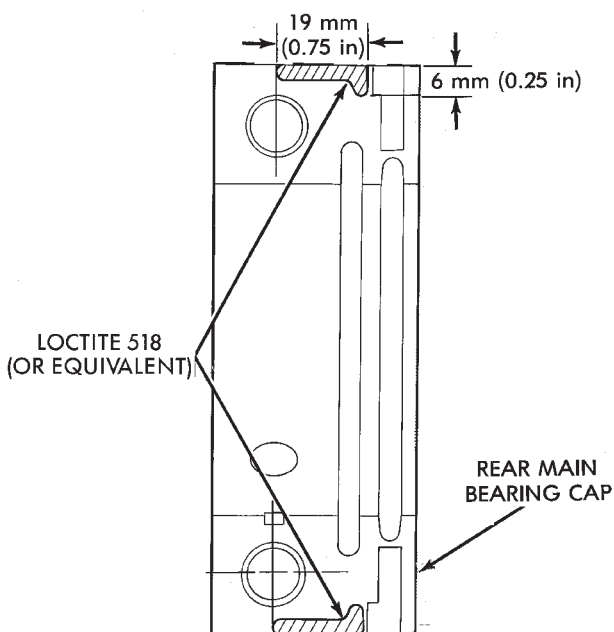

Fig. 59 Location of Loctite 518 (or equivalent)
(7) Position the lower seal into the bearing cap recess and seat it firmly. Be sure the seal is flush with the cylinder block pan rail.
(8) Apply Loctite 518, or equivalent on the rear bearing cap (Fig. 59). The bead should be 3 mm (0.125 in) thick. DO NOT apply Loctite 518, or equivalent to the lip of the seal.
(9) Install the rear main bearing cap. DO NOT strike the cap more than twice for proper engagement.
(10) Tighten all main bearing bolts to 108 N·m (80 ft. lbs.) torque.
(11) Install the main bearing cap brace. Tighten nuts to 47 N·m (35 ft. lbs.).
(12) Install the oil pan gasket and oil pan. Tighten 1/4 - 20 screws to 14 N·m (120 in. lbs.). Tighten 5/16 - 18 screws to 18 N·m (156 in. lbs.).
(13) Install the engine flywheel or converter drive plate. Tighten bolts to 142 N·m (105 ft. lbs.).